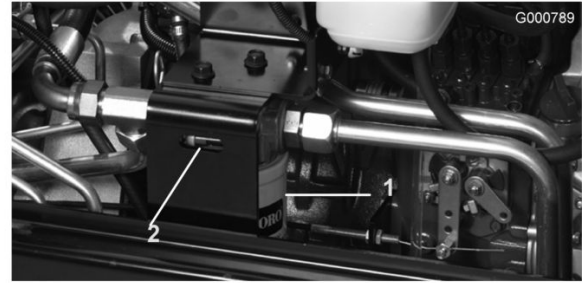

Figure 77
2. Clean area around filter mounting area. Place drain pan under filter and remove filter (Figure 77).